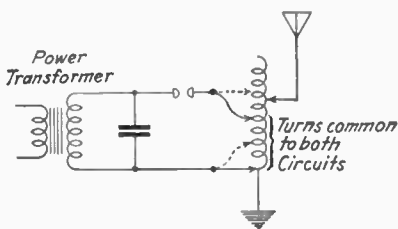

FIG. 17.—Conductively coupled transmitter.
*Ans.* Figure 17 illustrates a conductively coupled transmitter. The oscillations produced in the primary section of the inductance are induced by direct induction or conduction into the secondary section of the inductance and are radiated in electromagnetic form.